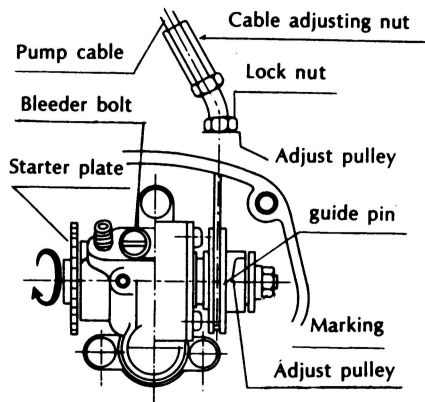

Fig. 11-3-7
- a. Adjust the pump cable so that the marking (arrow) on the Autolube pump adjustment pulley is aligned with the guide pin (see Figs. 11-3-7 & -8).
Begin by fully closing the accelerator grip, then slowly turning it back again so that the slack in the throttle cable is completely taken up. Next, adjust the pump cable so that the marking on the pump adjustment pulley will be aligned with the guide pin, as shown in Fig. 11-3-7. The point of adjustment is at the end of the cable just before it enters the case. Loosen the lock nut and screw the adjustor in or out whichever direction is necessary to obtain the correct adjustment.